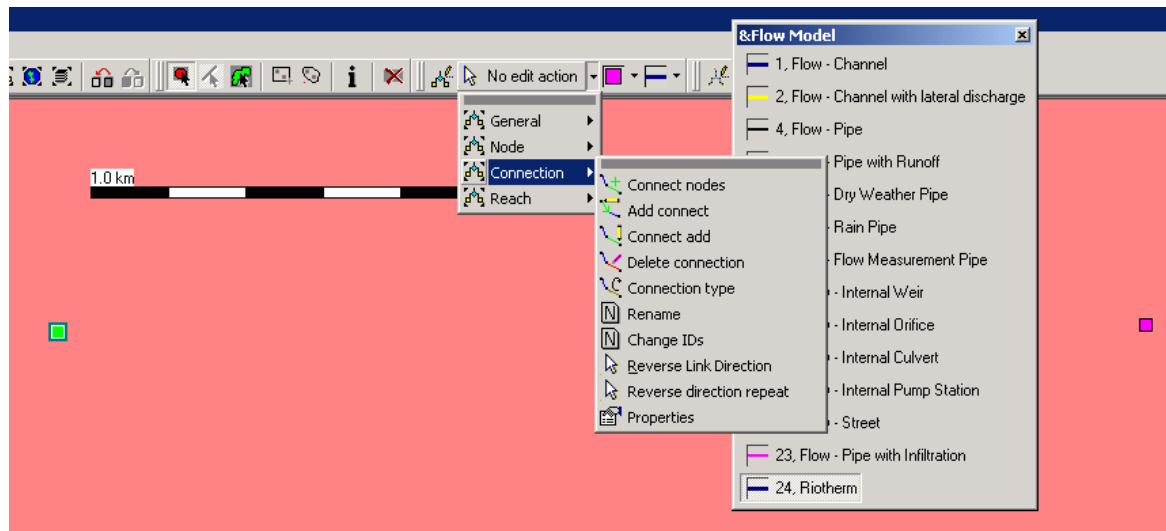

Figure 6
2. Connect the nodes with a temperature pipe (Figure 6).